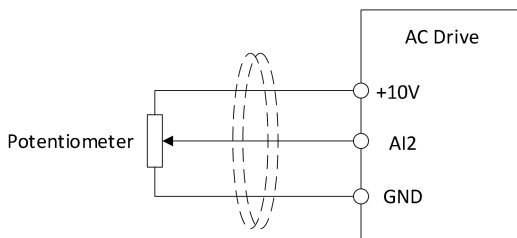

Figure 5-4-1 Voltage type wiring diagram
- ① Both AI1 and AI2 support 0–10V voltage input, see Figure 5-4-1
- ② The dotted line in the figure is a magnetic ring, usually ferrite,